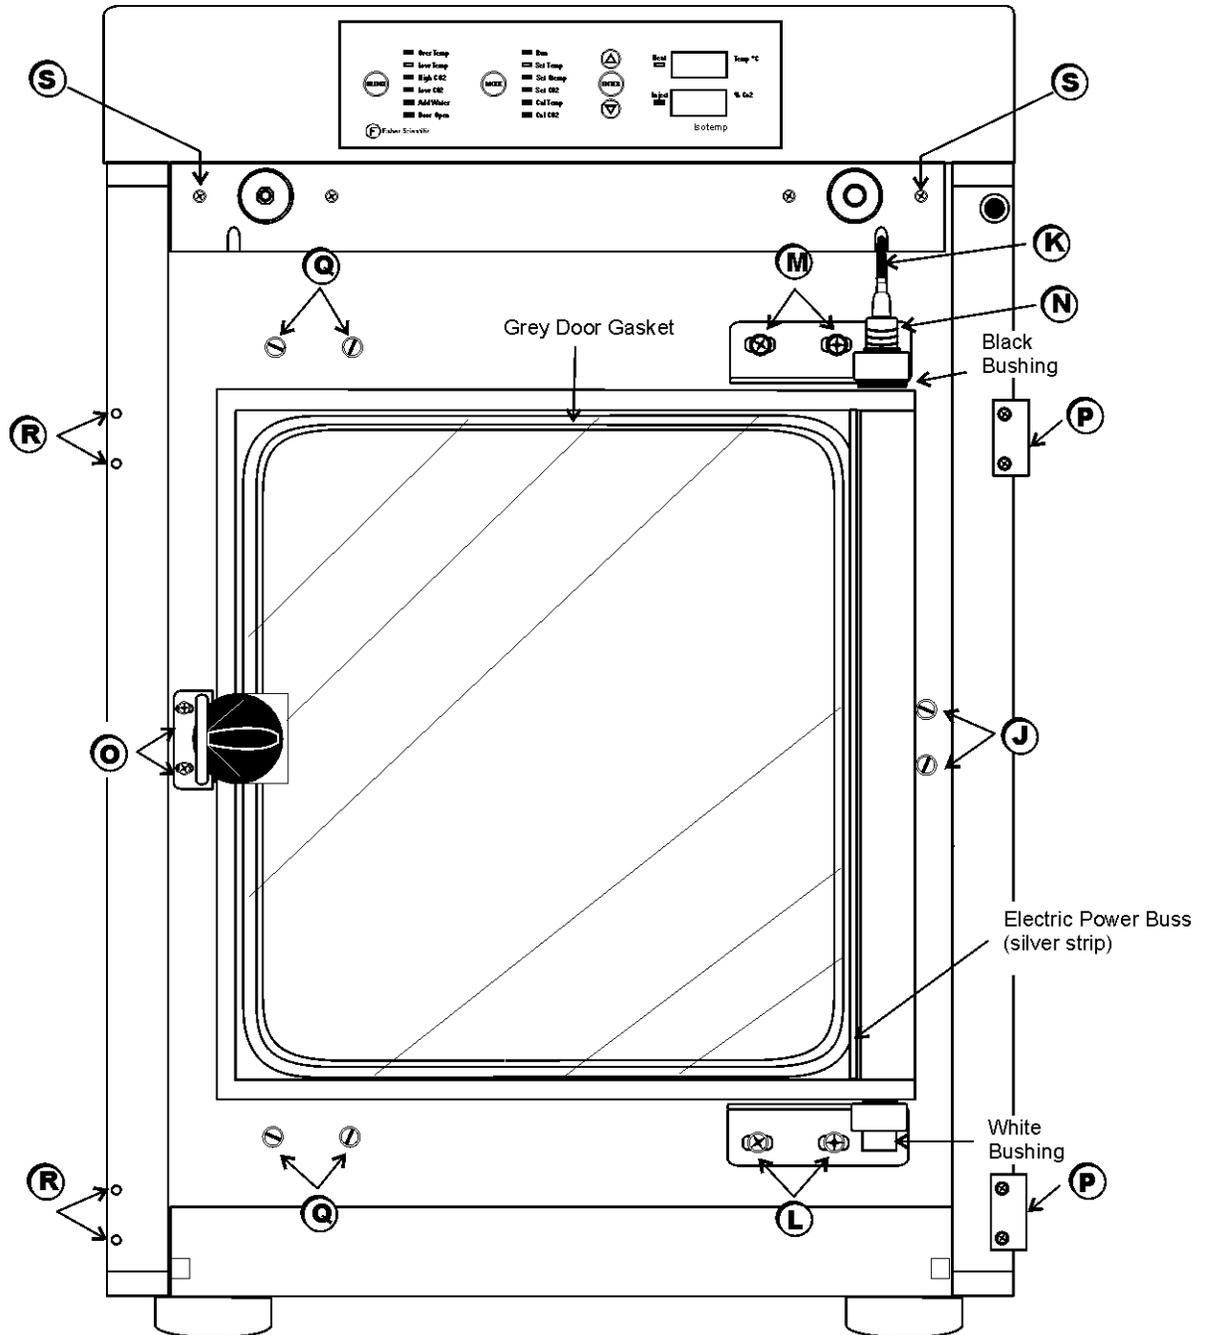

Figure 4-7B
- Verify that the nylon screws have been installed in the vacant door strike holes, identified as “J” (Figure 4-7B).
3. Remove two screws as shown. See item “S” in Figure 4-7B.